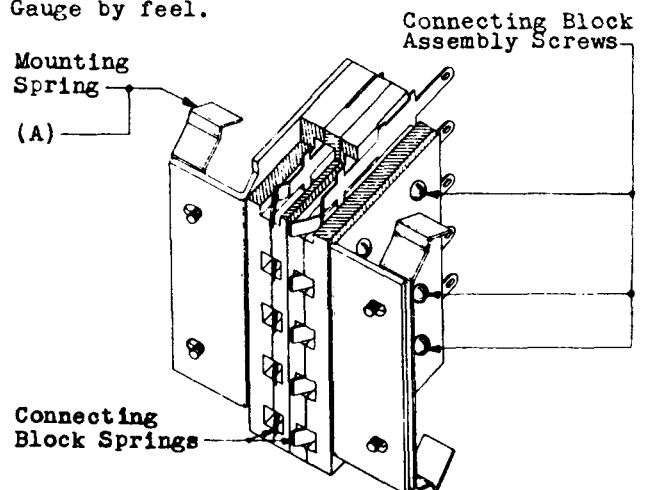

FIG. 2 - 18F Connecting Block
2.03 Relay Mounting - Fig. 2 (A) - Relays shall be held securely by the associated connecting block mounting springs. Gauge by feel.